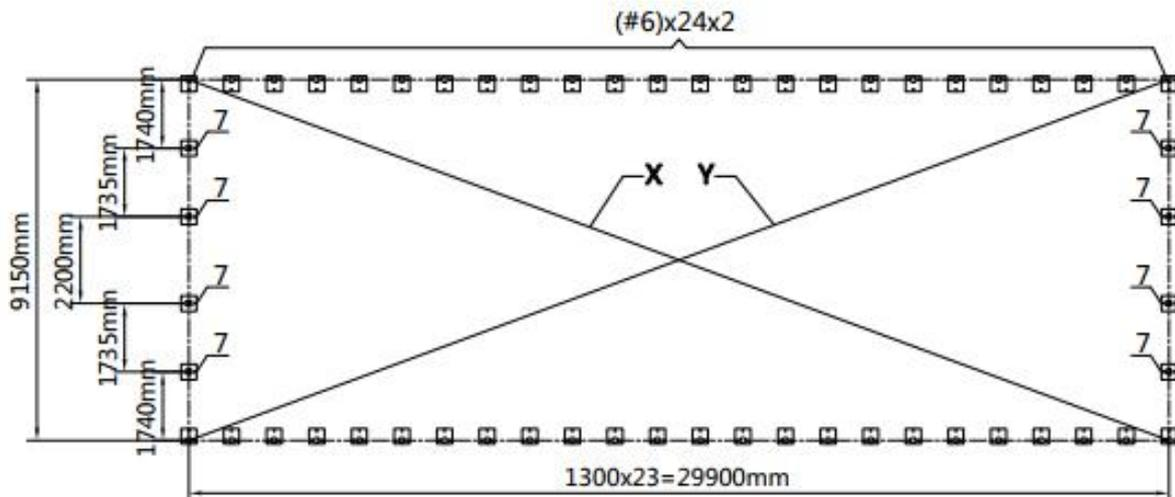

Figure 1
- Base plates: all base plates must be installed firmly with expansion bolts (#6A) on this step (refer to figure 1).
- (48) Base plate (#6)